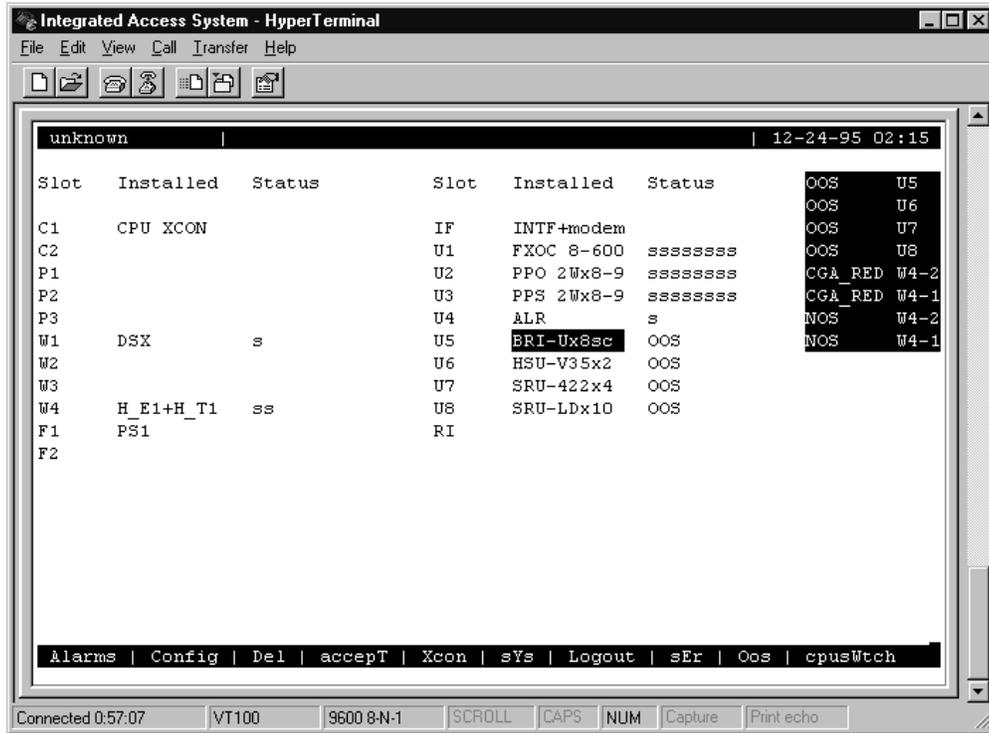

Figure 4-25. Typical System Main Screen with Alarms
6. The system automatically builds the necessary time slot structure. Since the user slots are vacant, the system will register Out Of Service (OOS) alarms for each of the four cards, as shown in Figure 4-25.